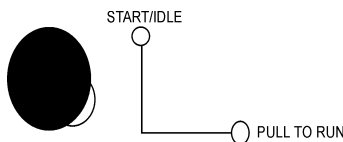

Figure 32. Engine Throttle Lever
2. Turn to the right and press in the engine throttle lever (Figure 32).